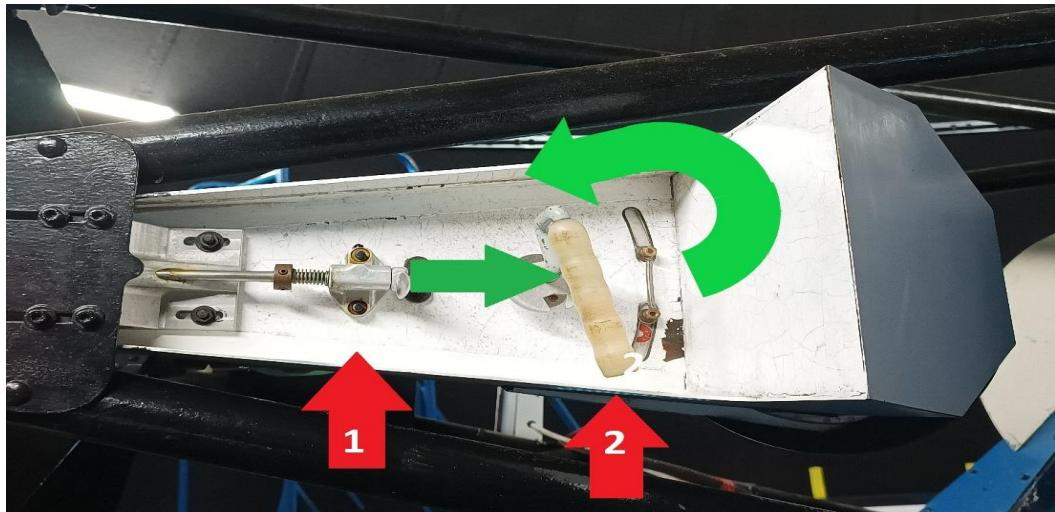

Fig. 12: Secondary Mirror Cover (shown in the open position)
Slide the unlocking lever (1) in direction as shown by green arrow on fig. 12, and at same time twist handle (2) 90 degrees to unlock from around the mirror and pull handle (2) towards you. NB that when the lever is in the open position, the clamps holding the cover onto the secondary will be fully extended – the arm should swing open (towards you) freely with no friction or difficulty. Do not attempt to ‘pull’ the arm free if you feel any obstruction!